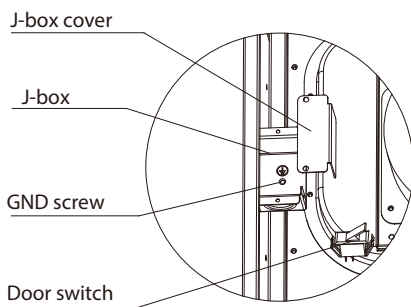

Fig. 9-1 J-box
1. Remove and save two screws holding J-Box. (See Fig. 9-1.)
Field-Supplied Electrical Box on Furnace J-Box Bracket See Fig. 9-1.
Electrical Box on Furnace Casing Side. See Fig. 9-1 and Fig 9-3.
4. Remove and save two screws holding J-Box. (See Fig. 9-1.)